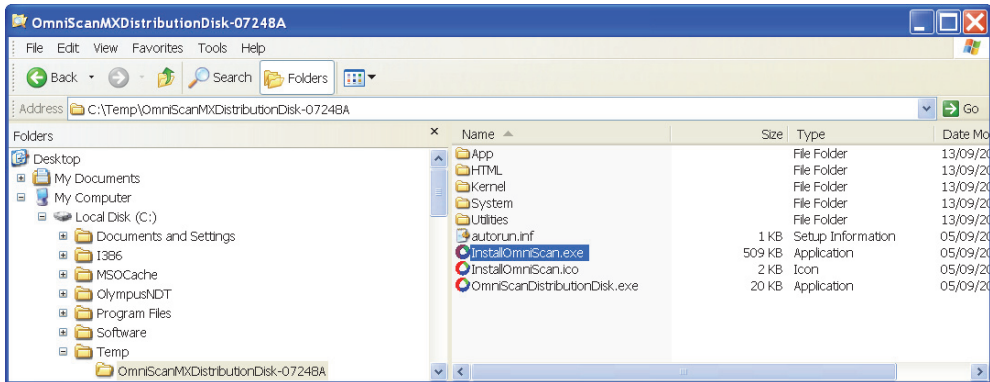

Figure 4-12 Double-clicking the InstallOmniScan.exe file
- ◆ Select the folder where you unzipped the OmniScan distribution disk file, and then double-click the **InstallOmniScan.exe** file (see Figure 4-12 on page 74).